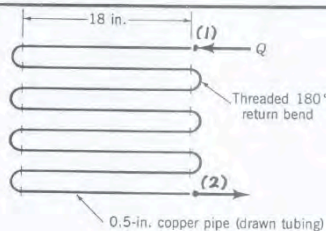

FIGURE P8.84
8.84 Water at 40 °F flows through the coils of the heat exchanger as shown in Fig. P8.84 at a rate of 0.9 gal/min. Determine the pressure drop between the inlet and outlet of the horizontal device.